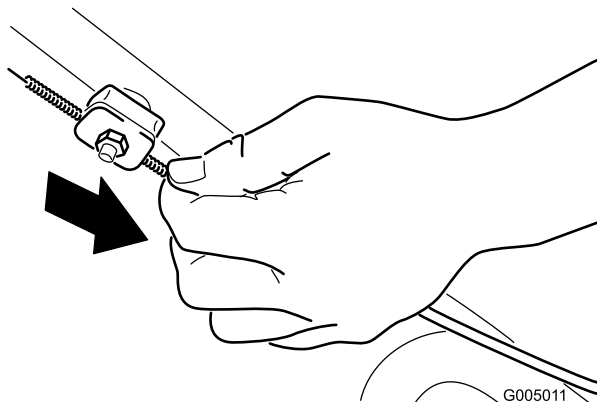

Figure 24
2. Pull down the cable jacket (toward the machine) until there is no slack in the cable (Figure 24).